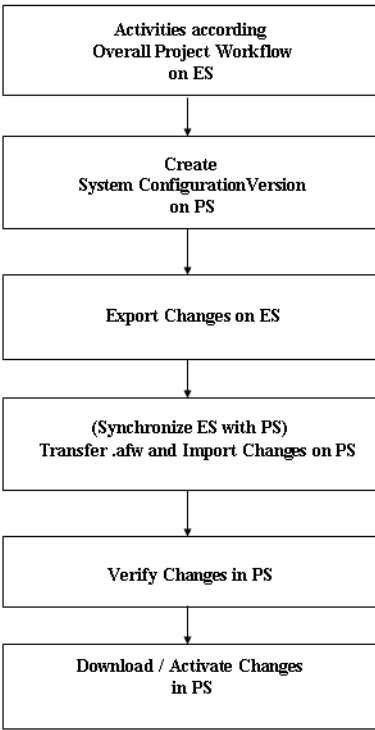

Figure 30. Extended Project Workflow for Site Engineering
In an (on-)site engineering scenario with Production System (PS) and Engineering System (ES) the project workflow extends as shown in Figure 30. Import/Export can be used for synchronizing changes.